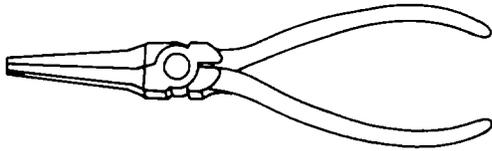

Figure 4-44. Flat-Nose Pliers
(4) *Flat-nose pliers.* The flat-nose pliers have flat serrated jaws, a fixed pivot, and curved handles which may have insulated sleeved. These pliers are used to bend light sheet metal and wire, and are shown in figure 4-44.